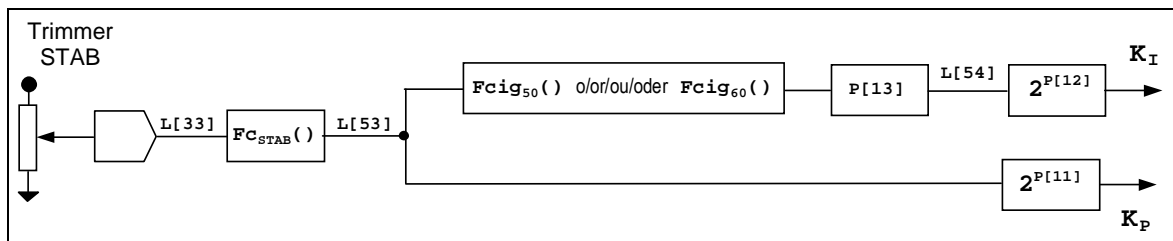
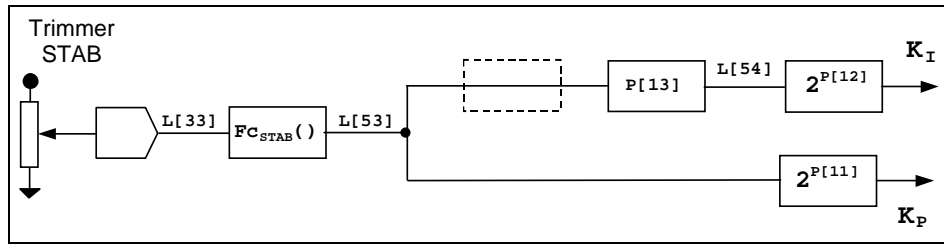
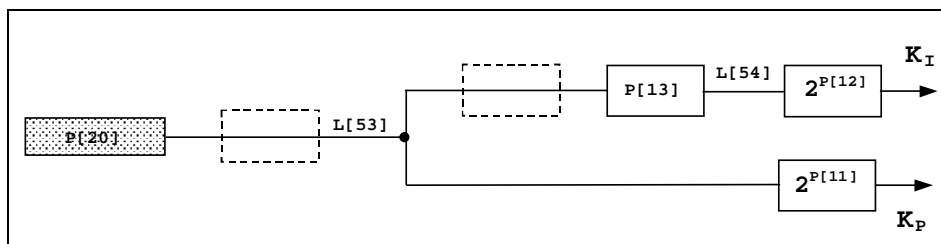

fig. 6a: drawing of the numeric elaboration of the proportional and integral gain by a DSR (standard) with the STAB trimmer enabled
fig. 6b: drawing of the numeric elaboration of the proportional and integral gain by a DSR/A with the STAB trimmer enabled
fig. 6c: drawing of the numeric elaborations of proportional and integral gain by all DSRs with STAB trimmer disabled
The numeric elaborations carried out by the DSR for obtaining the proportional and integral gain values are given in the block diagrams in figures 6a(2), 6b(2) and 6c.
If the STAB trimmer is enabled (STAB Flag Trimmer present) its angular position, available at location L[33], is transformed by the  $F_{C_{STAB}}^{(2)}$  function into the numeric value available at location L[53](3) (figs. 6a and 6b). If the STAB trimmer is disabled, the value of location L[53](3) directly becomes the value set using the P[20] parameter (fig. 6c). The proportional gain  $K_P$  is obtained by multiplying the value of location L[53](3) by a coefficient that depends on the value given in parameter P[11](4).
The integral gain, available at location L[54](3) minus the multiplication by a coefficient, depends on the value of the proportional gain at location L[53](3); in the standard DSR (grey box) with the STAB trimmer enabled (STAB Flag Trimmer present) the value of location L[53](3) at 50Hz is transformed by the function  $F_{cig_{50}}^{(2)}$  and by the multiplication of the value of parameter P[13], in the numeric value available at location L[54](3); at 60Hz the transformation function is  $F_{cig_{60}}^{(2)}$ , different from that at 50Hz, (fig. 6a); in the other versions of the DSR (fig. 6b), for example DSR/A (blue box), or if the STAB trimmer is disabled(4) (fig. 6c), not only is there a difference between the integral value at 50Hz and at 60Hz, but even the value of location L[54](3) is obtained by simply multiplying the proportional gain at location L[53](3) by the value of parameter P[13].